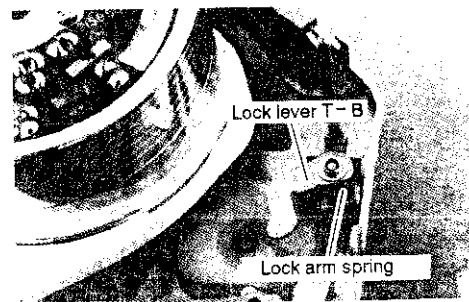

Fig. 3-11-3
- ① Make sure that the lock arm spring and lock lever T-B are mounted as shown in Fig. 3-11-3.
- ② Attach the slant T to the main plate shaft.
- ③ Secure the slant T with screws ③ and ④.
- ④ Put the FPC cable connected to the A/C head through slant T. Tape it on the reverse of the main plate with pressure sensitive adhesive double coated tape.